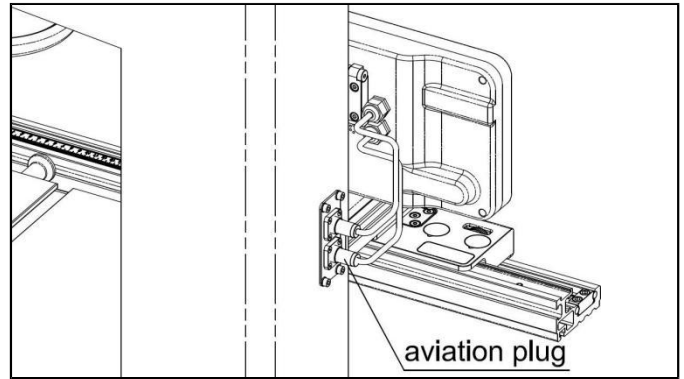

Fig. 7-2
2. As shown in Fig. 7-2, connect the two aviation plugs on the Display Assembly to the two matching sockets on the side of the machine column. Then tighten to secure them in place.